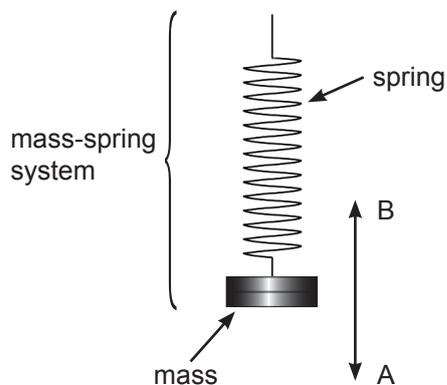

Fig. 4.1
- 4 A spring is suspended from a fixed point and a mass attached to the other end, as shown in **Fig. 4.1**. Displace the mass a small vertical distance downward and release it. The time taken for one oscillation is called the periodic time. One oscillation is when the mass moves from position A to B and back to A again.